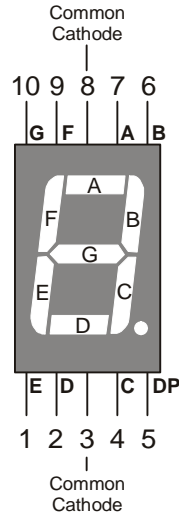

Figure 6-2
A 7-segment display is a rectangular block of 7 lines of equal length that can be lit selectively with LEDs to display digits and some letters. Figure 6-2 shows a part drawing of the 7-segment LED display you will use in this chapter's activities. It also has a dot that can be used as a decimal point. Each of the segments (A through G) and the dot contain a separate LED, which can be controlled individually. Most of the pins have a number along with a label that corresponds to one of the LED segments. Pin 5 is labeled DP, which stands for decimal point. Pins 3 and 8 are labeled "common cathode" and they will be explained when the schematic for this part is introduced.
Pin Map: Figure 6-2 is an example of a *pin map*. A pin map contains useful information that helps you connect a part to other circuits. Pin maps usually show a number for each pin, a name for each pin, and a reference.
Take a look at Figure 6-2. Each pin is numbered, and the name for each pin is the segment letter next to the pin. The reference for this part is the decimal point. Orient the part so that the decimal point is at the bottom-right. Then you can see from the pin map that Pin 1 is at the bottom-left, and the pin numbers increase counterclockwise around the case.
- ✓ Using the pin map from Figure 6-2 as a guide, repeat these steps for segments C through G.